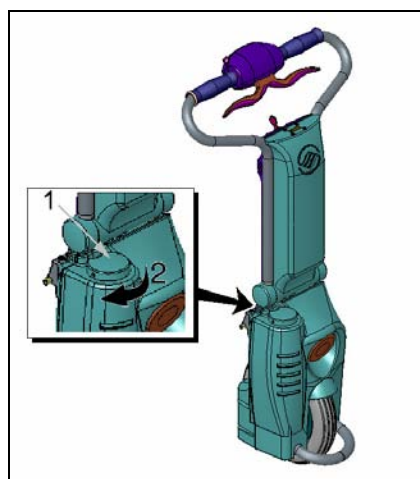

Fig 11
PARKING BRAKE MANUAL RELEASE - If for whatever reasons you have the need to push your scooter, the parking brake can be released manually. To achieve this turn the knob at the front right hand side of the tiller to the end of its travel which is about one third of a full turn (fig 11). Buddy is now in a freewheel mode and can be moved about manually. This should all be carried out with the ignition switched off. For obvious safety reasons the scooter is unable to be driven in this state. In addition if the ignition is turned on whilst the brake is in the release position the horn will sound continuously indicating the machine is in an unsafe condition.
- With your hand at the front of the seat, pivot upwards 2/3 inches to the extent of its travel. With the seat base in this position, allow the whole seat to fold down, again to the extent of its travel (fig 11 a b c).